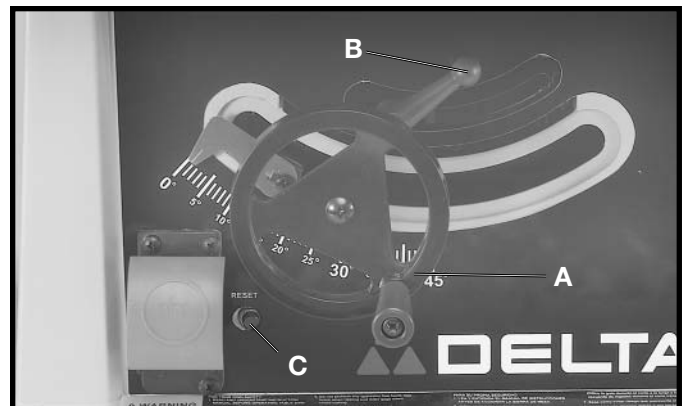

Fig. 44
Your saw is equipped with a reset overload relay button (C) Fig. 44. If the motor shuts off or fails to start due to over loading (cutting stock too fast, using a dull blade, using the saw beyond its capacity, etc.) or low voltage, turn the switch to the “OFF” position. Let the motor cool three to five minutes and push the reset button (C), which will reset the overload device. The motor can then be turned on again in the usual manner.
To raise or lower the saw blade, turn handwheel (A) Fig. 44. Turning the handwheel clockwise lowers the blade and turning the handwheel counterclockwise raises the blade. **⚠️WARNING: THE BLADE TILTING LOCK HANDLE (B) FIG. 44, MUST BE LOCKED DURING ALL CUTTING OPERATIONS.**